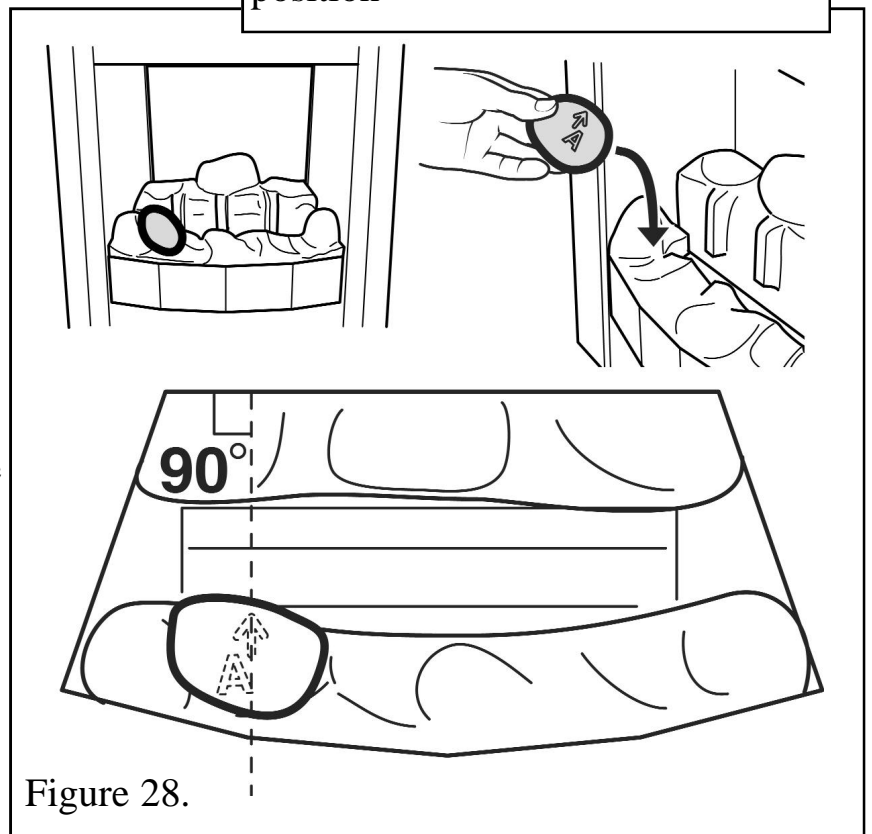

Figure 28.
The pebbles should be positioned so that the arrows always point towards the back of the fireplace opening. When located into position the stem of each arrow should be at 90° to the rear of the fireplace opening (See figure 28).
4. Hold pebble 'A' upright with the arrow pointing to the top. Place pebble "A" on top of the front base pebble. The pebble should rest against the moulded pebble to its left (See figure 28).